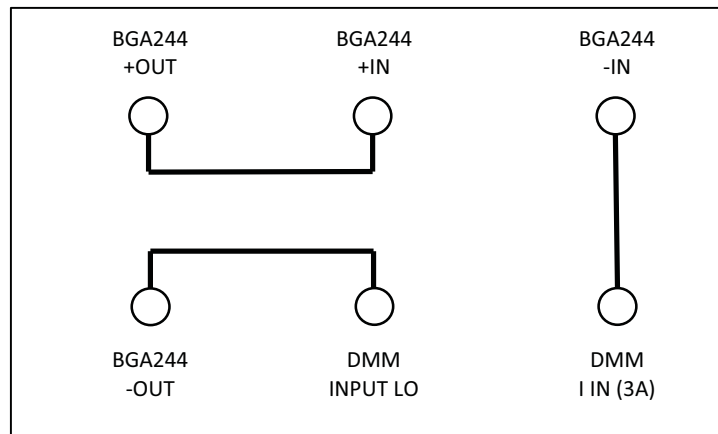

FIGURE 36: SETUP FOR ANALOG IO CURRENT TEST
6. Connect Analog Output 1, Analog Input 1 and the DMM I input as shown in Figure 36. Set the DMM to measure DC Current at maximum resolution. Select auto range.